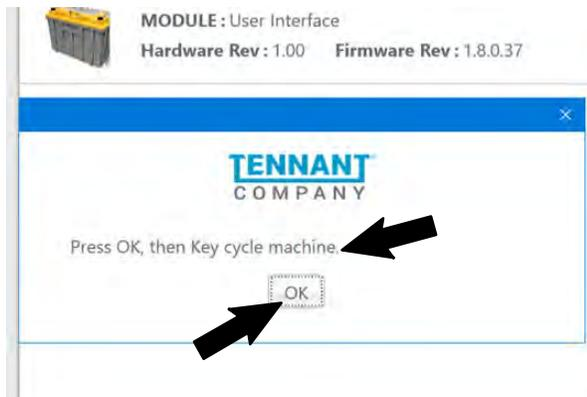
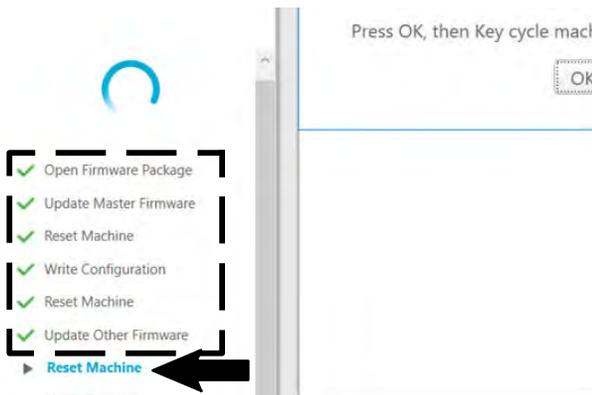

FIG. 58
FIG. 59
57. A text box with “Press OK, then Key cycle machine.” appears. Select the OK button and then key cycle the machine to complete the lithium battery firmware update. (Fig. 58)
NOTE: Firmware update status box on left side of the screen will be at “Reset Machine” when text box to key cycle machine appears. All previous listed items are checked/completed. (Fig. 58/ Fig. 59)